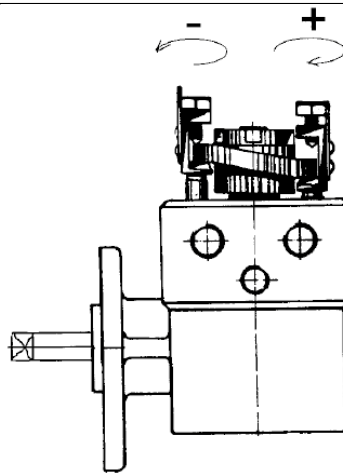

Figure 10
- Turn the screw anticlockwise to decrease the oil flow (see Figure 10) (this operation must be done for all the lubrication pump pistons);